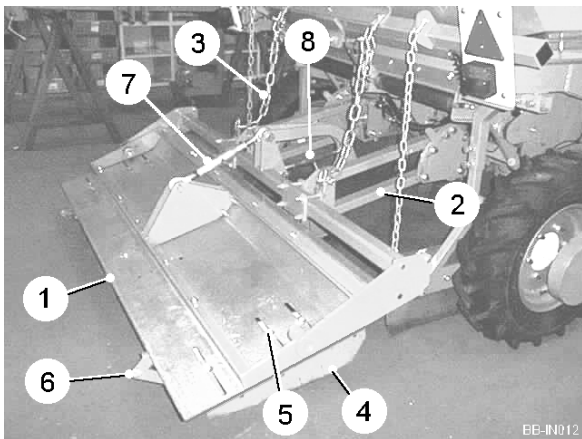
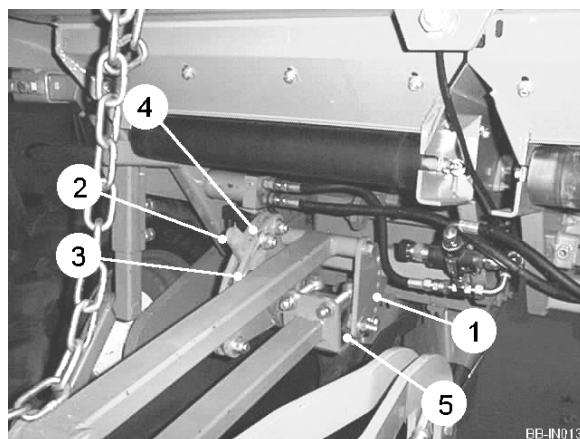

Fig 5
Fig 6
Three adjustable mould boards (item 1, figure 5) are mounted at the rear of the planter via parallel linkage arms (item 2, figure 5). During work these arms should be at approximately  $10^\circ$  from horizontal. This can be achieved by repositioning the bolts (item 1, figure 6) into a different set of holes. The height and downward pressure exerted by the mould board is controlled by the reaction arm (item 2, figure 6) and upper and lower stops. The lower stop (item 3, figure 6) controls the height of the board whilst simultaneously reduces the pressure of the board on the bed. The upper stop (item 4, figure 6) induces a downward pressure on the board by loading the rubber torsion springs (item 5, figure 6) within the lower arm pivots. Both stops are adjusted by loosening their retaining bolt and sliding the stop around the slot to the required position. If when in work no pressure is required on the bed, the stops can be adjusted to allow the reaction arm (item 2, figure 5) to move freely.
The position of the wings (item 4, figure 5) is important to ensure a nicely formed bed. The outer wings are adjustable for both position and angle. The position of the wing determines the width of the finished bed. To adjust, loosen the mounting bolts (item 5, figure 5) and slide the outer wing assembly to the required position. The angle at which the wings operate will determine the shape of the bed. To adjust, loosen the retaining bolt (item 6, figure 5) and rotate the wings to the required position. The top link (item 7, figure 5) sets the mould board angle. Initially the angle should be set at approximately  $5^\circ$  from horizontal. Increasing the angle will allow more soil under the board.
The depth at which the centre plough operates is set using the top link (item 8, figure 5). The deeper the plough is set, the more soil it will push sideways. Care should be taken however as going too deep may move the seed in the bed.